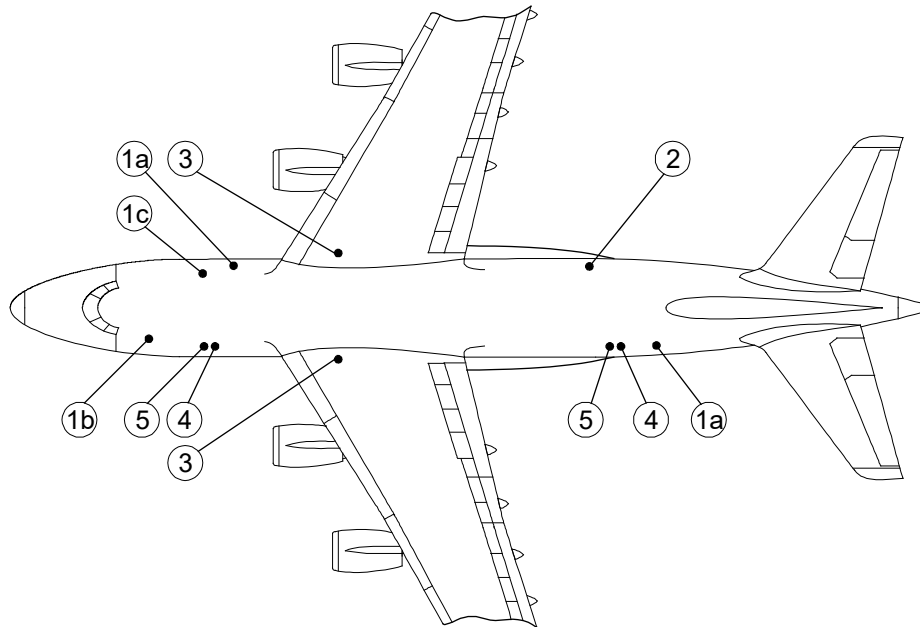

Figure 9. Placement of ground handling draw-off points (top view) for AN-124-100(150)
- Figure 9. Placement of ground handling draw-off points (top view) for AN-124-100(150);